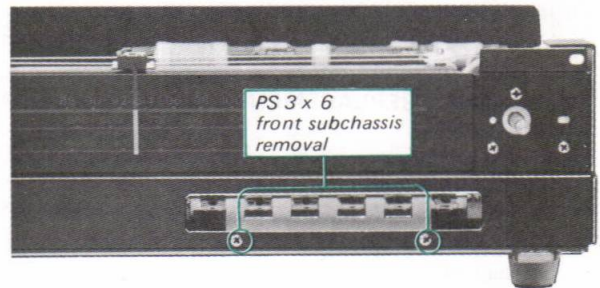

Fig 2-8. Front subchassis removal
- Remove the two screws shown in Fig. 2-8. This frees the front subchassis with dial cord.